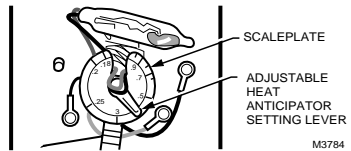

Fig. 7. Set heat anticipator indicator to match your primary control rating.
- ❑ Set the heat anticipator indicator at the rating printed on the primary control. See Fig. 7.